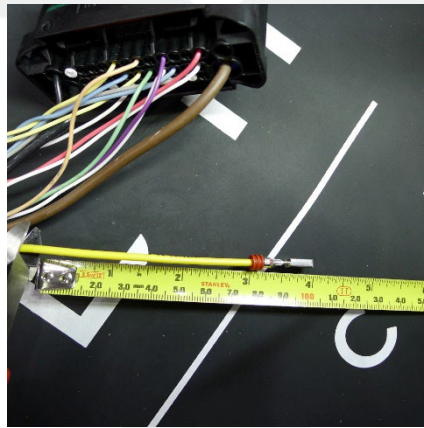

Figure 18
18. Cut the yellow power terminal wire 100 mm from the end (Figure 18), and then discard the end.